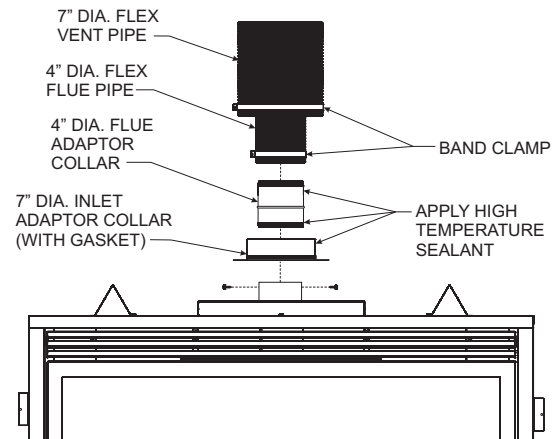

Figure 44
10. Apply sealant to the outside of the flue pipe adapter and connect to the flex flue pipe. Then insert the adapter into the fireplace flue. Secure flue adapter to the fireplace flue with a minimum of two screws provided. **See Figure 44.**